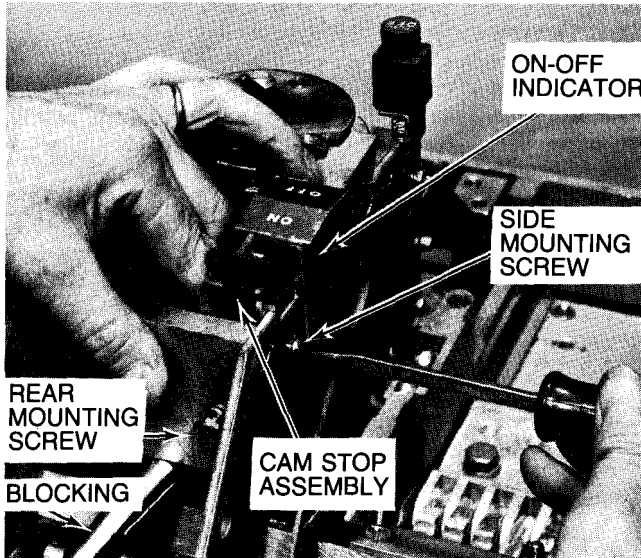

Figure 5.
2. Remove the side mounting screw, and then holding the cam stop assembly as shown, remove the rear mounting screw and lockwasher. See Figure 5.
1. Bend the breaker contact position indicator to the side and position the cam stop as shown in Figure 5. It will be necessary to maneuver the parts to get them into their correct position in the corner of the mechanism frame and with the cam stop frame engaged into the notch in the mechanism side frame. Install but do not tighten the rear mounting screw and lockwasher.